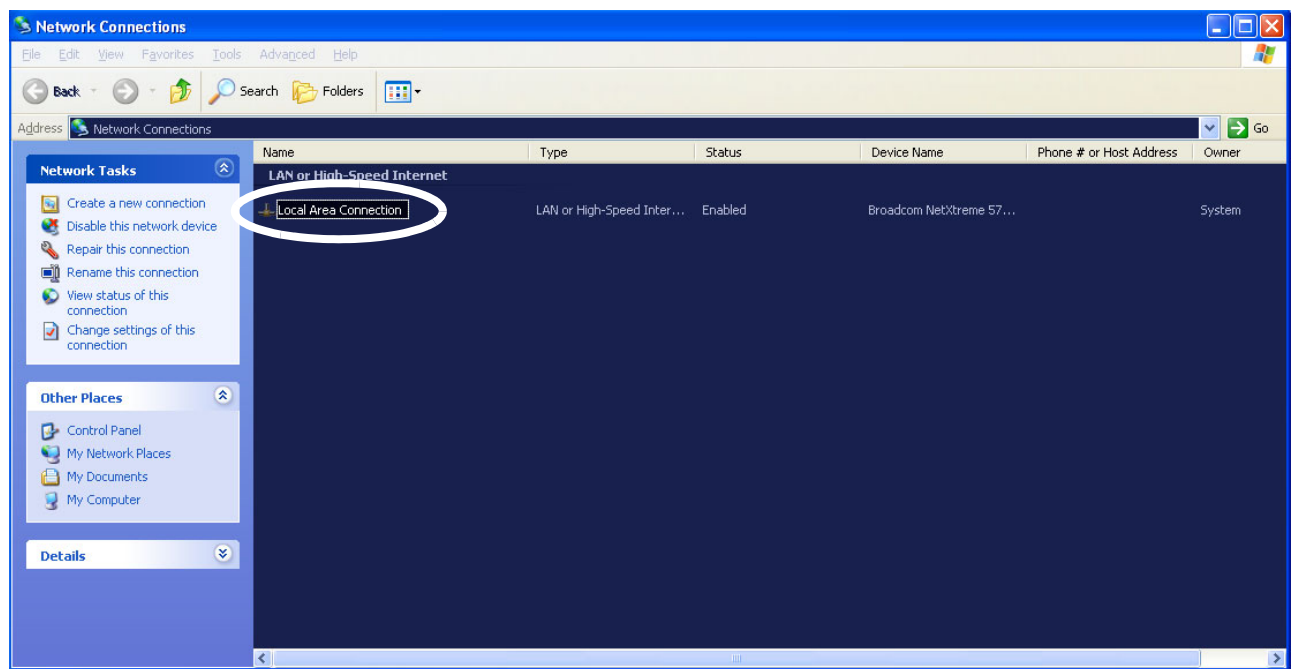

Figure 3-61 Network connections
- 2.) When in the **TCP/IP** screen, select **Advanced Settings** to display the **Network and Dial-up Connections** screen, see Figure 3-61 "Network connections" on page 3-68.